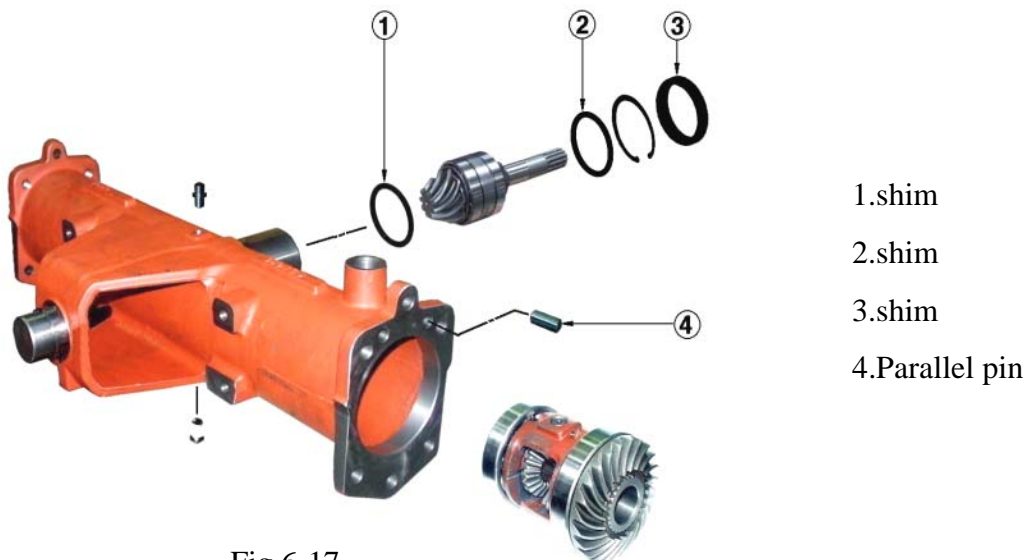

Fig.6-17
- 4) Install the snap ring and the bevel pinion can then be installed together with the TRB's (Fig.6-17)
- 6) Install the straight pin(4) which retains the axle housing.